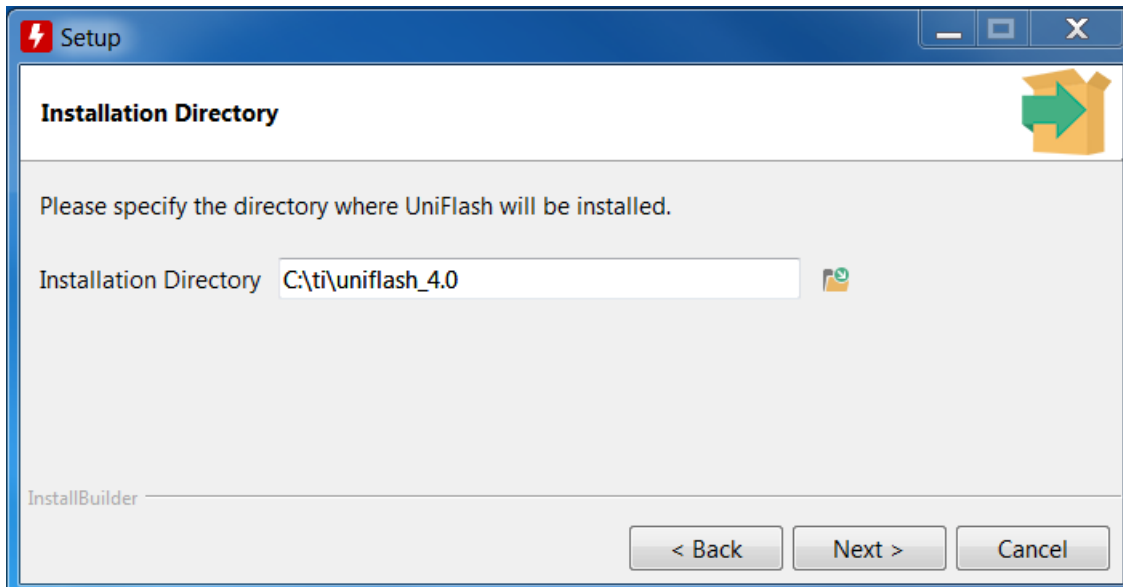

Figure 2-2. Select Install Path
3. Choose the desired path in the Installation Directory field to place the package as shown in Figure 2-2, else the default is chosen.